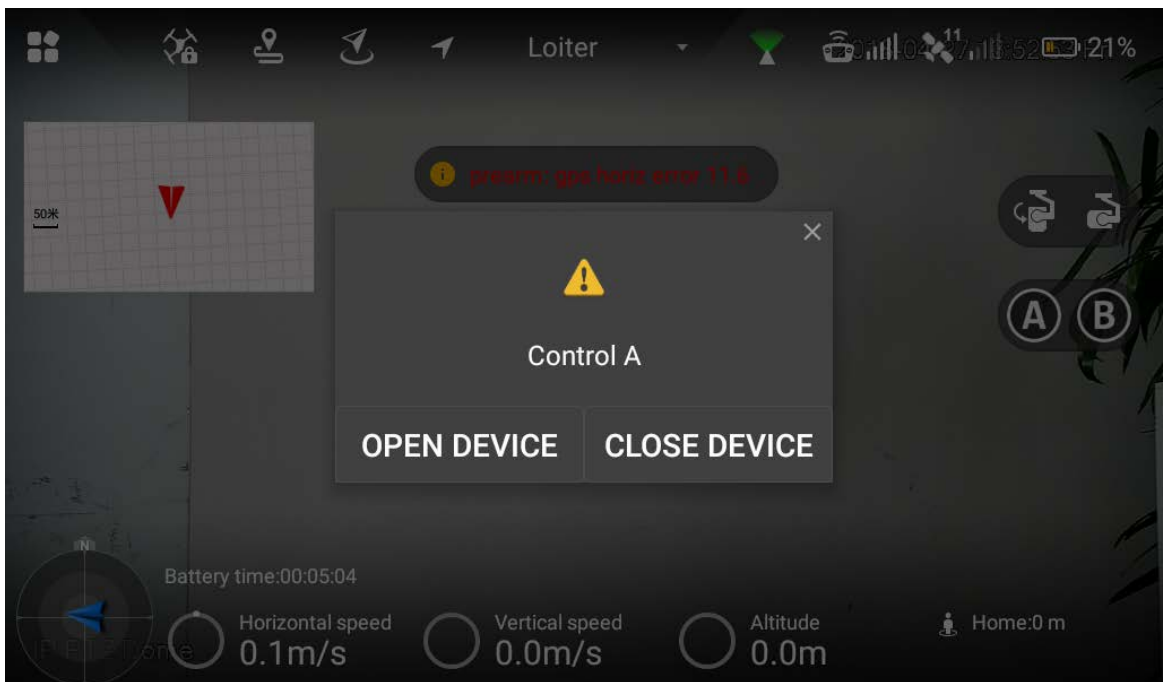

Figure 4-6
Step 4 Click “A”. The system displays “Control A” interface, as shown in Figure 4-6.